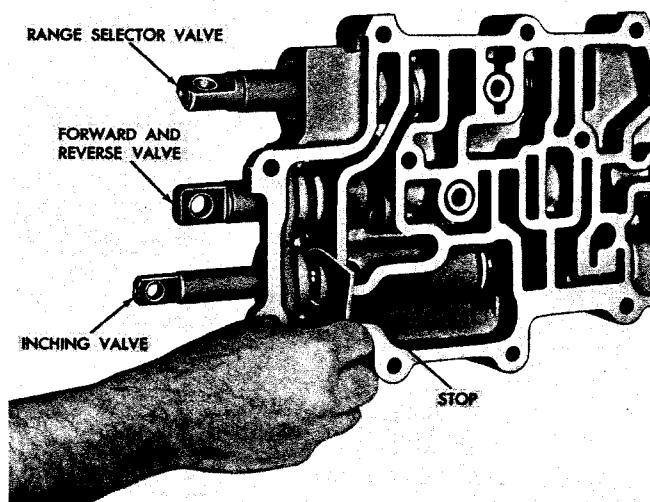

Fig. VI-3. Removing (or installing) inching valve stop—later model
a. Disassembly (item 6, B, foldout 15)
(1) Remove the inching valve stop from the valve body (fig. VI-3).